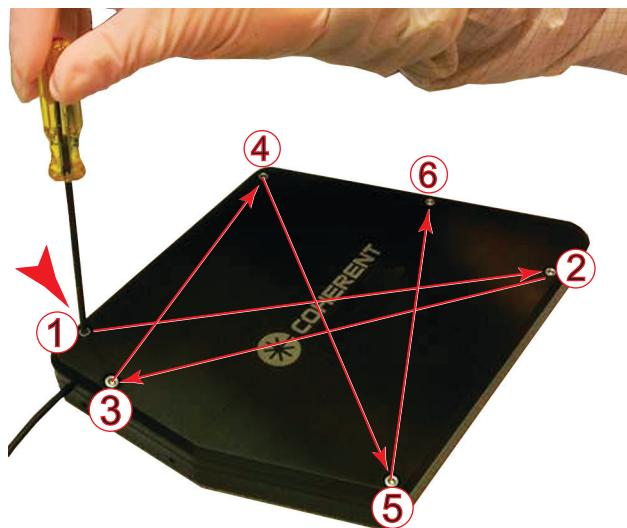

Figure 5-25. Tightening Pattern for Cover
8. Using the 7/64" hex wrench, secure the OBIS Galaxy box cover by firmly tightening the six top cover screws ***in the sequence shown in*** Figure 5-25.